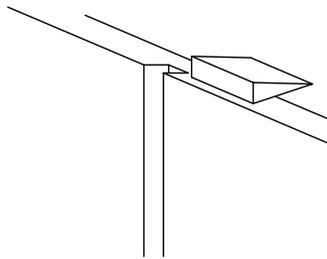

Fig. 1.4
- (e) The third panel can be held in place with adhesive alone, however, if necessary it can be held in place by a small shim between the top panel and the overmantel (Fig. 1.4)